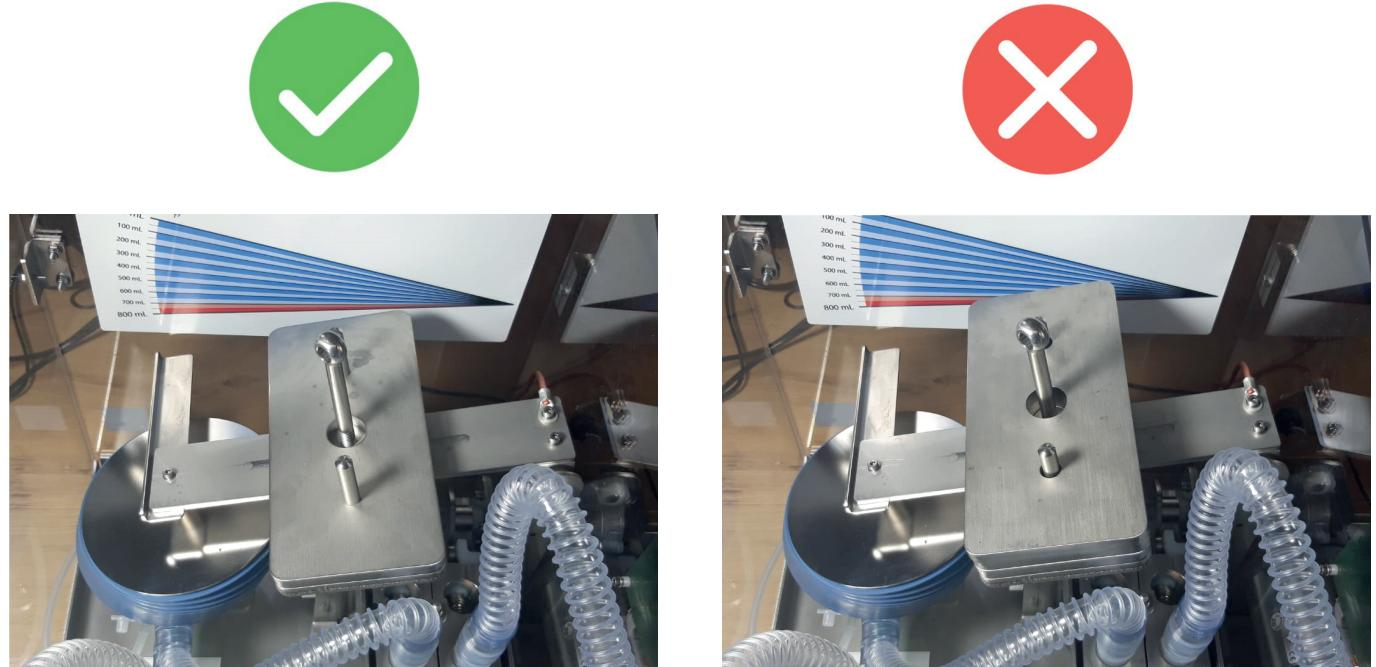

Figure 5: Left image: No extra weights are applied. Right image: Extra weights are applied
- Make sure no additional weight is added to the lever of the ventilator (inside the ventilator). Figure 5 shows how this should look like